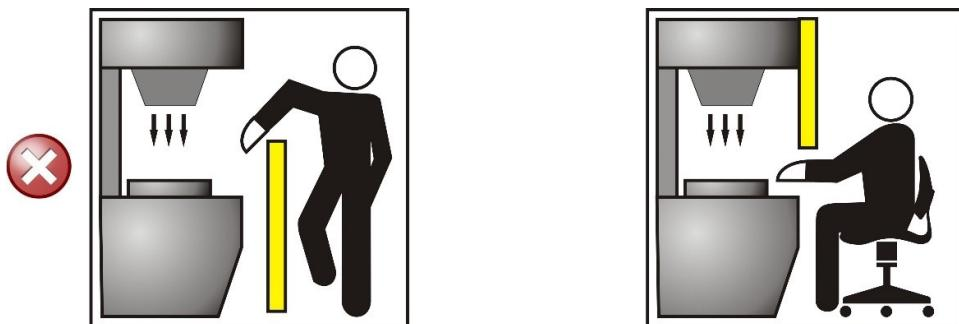

Figure 1 - Wrong light curtain positioning
**Figure 1 shows some examples of possible access to the machine from the top and the bottom sides. These situations may be very dangerous and so the installation of the safety curtain at sufficient height in order to completely cover the access to the dangerous area (Figure 2) becomes necessary.**